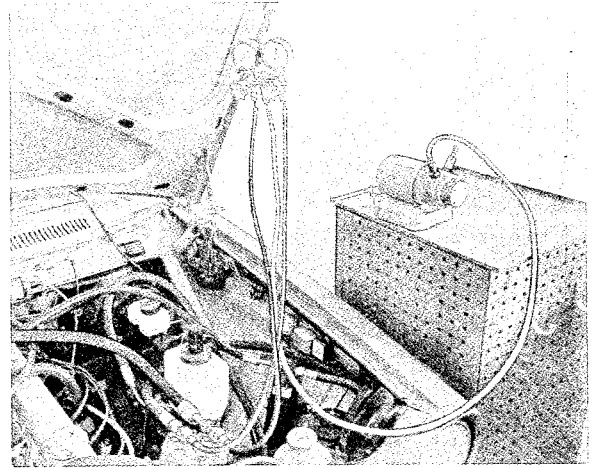

Fig. 8-95. Connecting vacuum pump
2. Connect up the low-pressure gauge hose, the blue one, to the suction side of the compressor (marked "suction" on top of the compressor), and the high-pressure gauge hose, the red one, to the discharge side (marked "disch"). The middle white hose is connected to the suction side of the vacuum pump (Fig. 8-95). NOTE: The packings in the nipples must only be tightened with the fingers when they are connected up in order not to damage them.